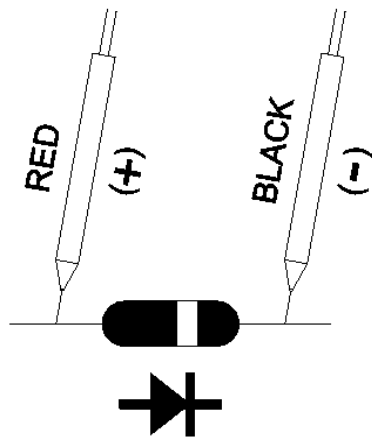

Fig. 2
- 5) a. When connected with polarity as shown in Fig. 2, a forward current flow is established and the approx. Diode Forward Voltage (VF) value in volt will appears on the display reading. If the diode under test is defective, " 0.000 " or near " 0.000 " value (short circuit) " OL " (open circuit) will be displayed.